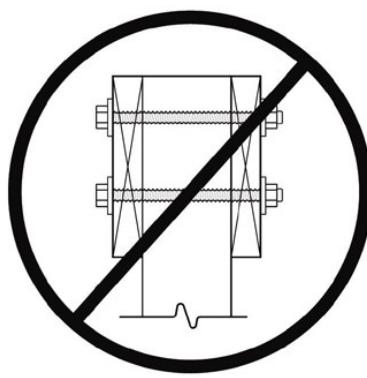
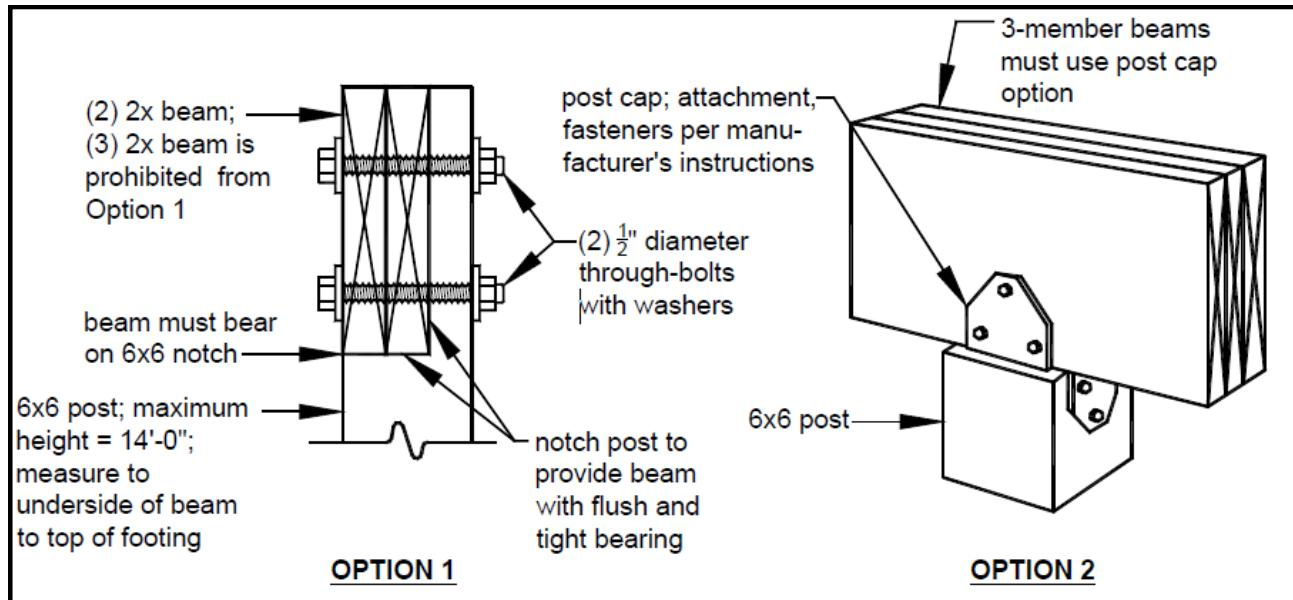

Figure 9:
Figure 10: Post-To-Beam Connection Options
All deck posts shall be **6x6** with a maximum height of 14'-0" measured from the top of the footing to the underside of the beam. The beam shall be attached to the post by one of the two methods shown in **Figure 10**. Attachment of the beam to the side of the post without notching is prohibited; see **Figure 9**
The post cap shown in **Figure 10**, Option 2, shall be specifically designed for (2) 2x or (3) 2x beams and 6x6 posts with a minimum downward allowable load capacity of 5,000 lbs.